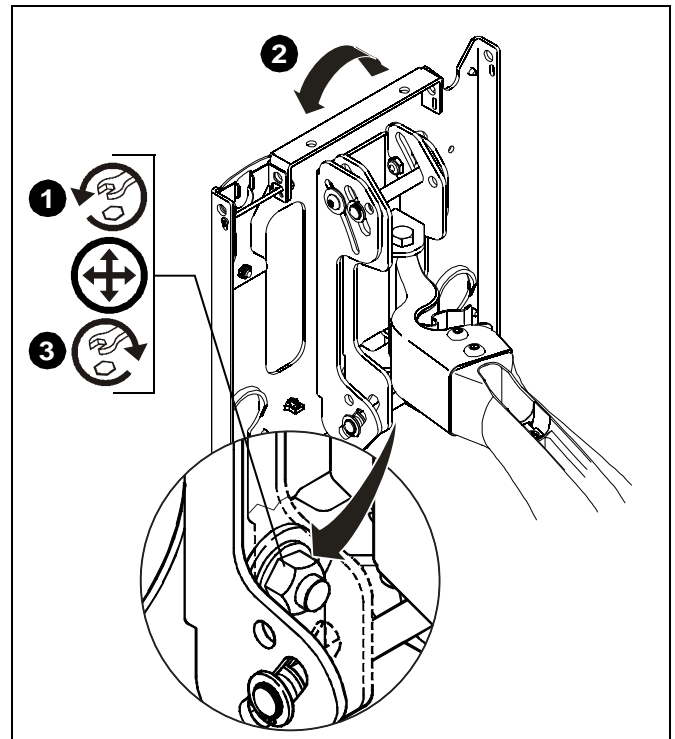

Figure 8
1. Loosen the roll tension adjustment nut located on the back side of the faceplate assembly. (See Figure 8)
3. Tighten roll tension adjustment nut. (See Figure 8)